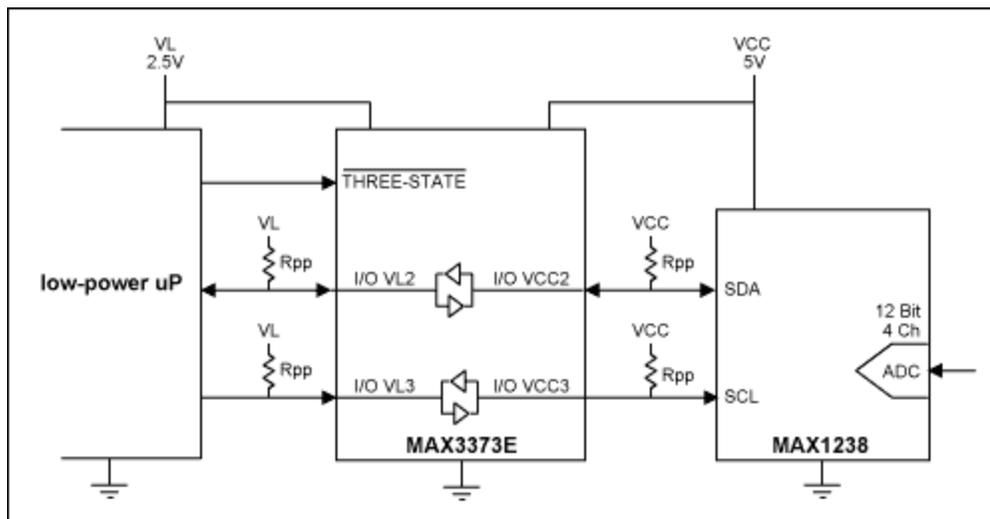

Figure 6. MAX3373E dual level translator used in an I2C-bus application with optional pull-up resistors  $R_{pp}$ .
**Figure 6** shows a similar application with an I2C-bus. The MAX3373E dual level translator is used to interface the  $\mu$ P I/O levels to the I2C-compatible interface of the MAX1236 (4 channel 12 Bit ADC).